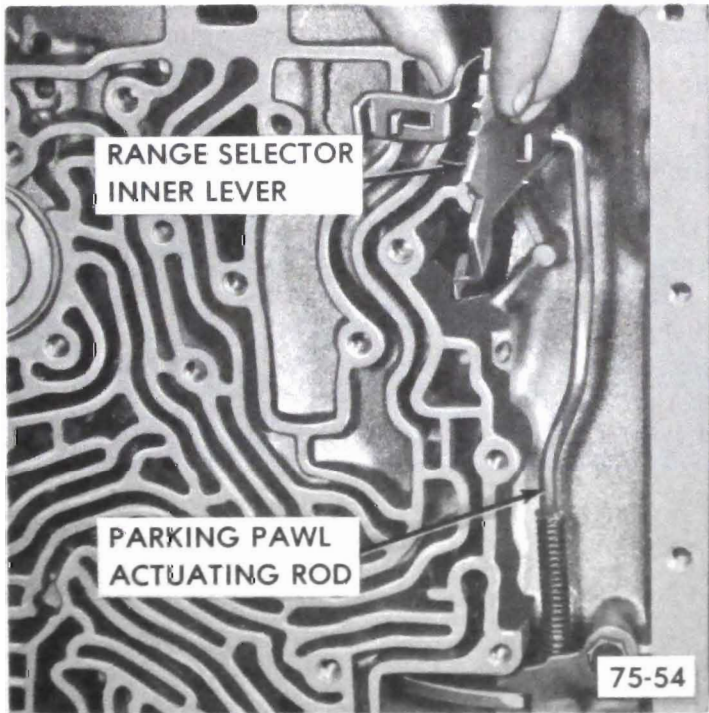

Figure 75-84
4. Remove manual shaft from case. Remove range selector inner lever and parking pawl actuating rod. See Figure 75-84.